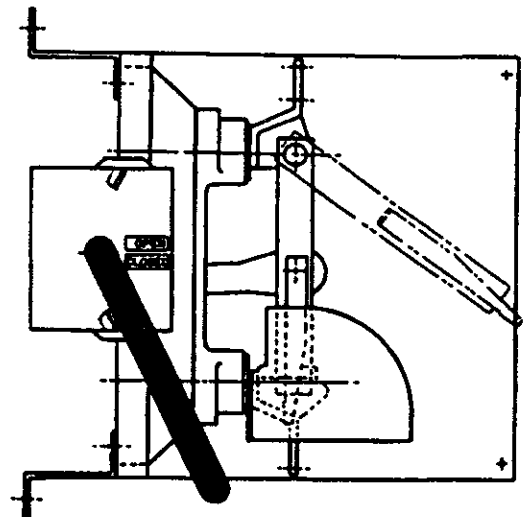

Fig. 13 Handle "DOWN" in switch closed position.
The component parts for this type arrangement is shown in Fig. 13. The switch and frame are mounted vertically in the enclosure. The arc chute interrupters are situated below the blade hinge. The switch has a direct drive operator and the handle is mounted on the left side of the enclosure. The handle is down with switch closed.
- a. Mount the frame-mounted switch (Fig. 13) in the enclosure. Check to be sure the 2-3/32" dimension from frame mounting holes to outside of enclosure (per Dwg. S-20149) has been maintained.
- d. Move handle to the DOWN or closed position as shown in Fig. 13 and engage hub and key of handle with the shaft extension and keyway of the stored-energy device.